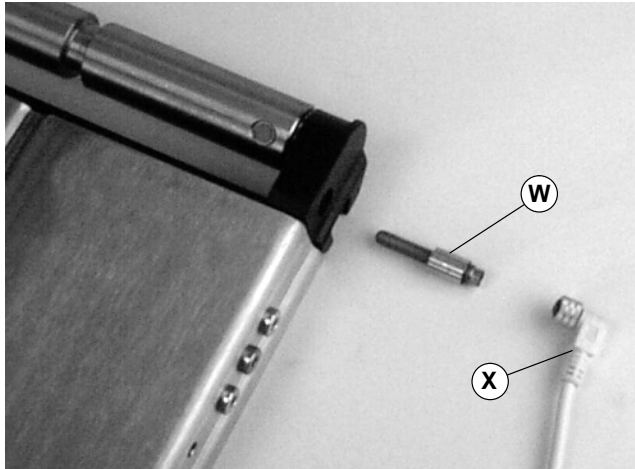

Figure 16
2. Remove reed switch (W of Figure 16).